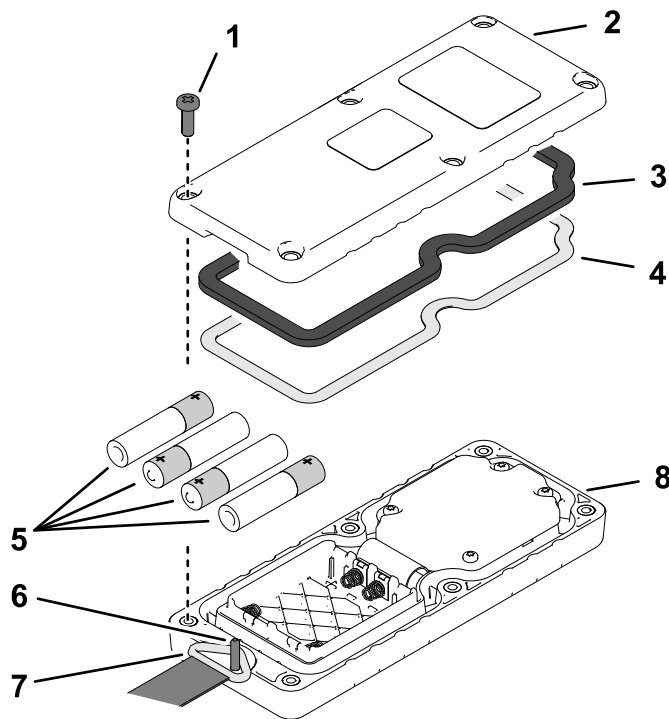

Figure 7
1. Remove the 6 screws securing the cover halves of the handheld remote together, and remove the back cover (Figure 7).
3. Ensure that the steel gasket and rubber seal (Figure 7) are seated in the channel in the front cover half.
4. Align the lanyard ring over the lanyard pin (Figure 7).
5. Assemble the back cover to the and front cover with 6 screws (Figure 7).